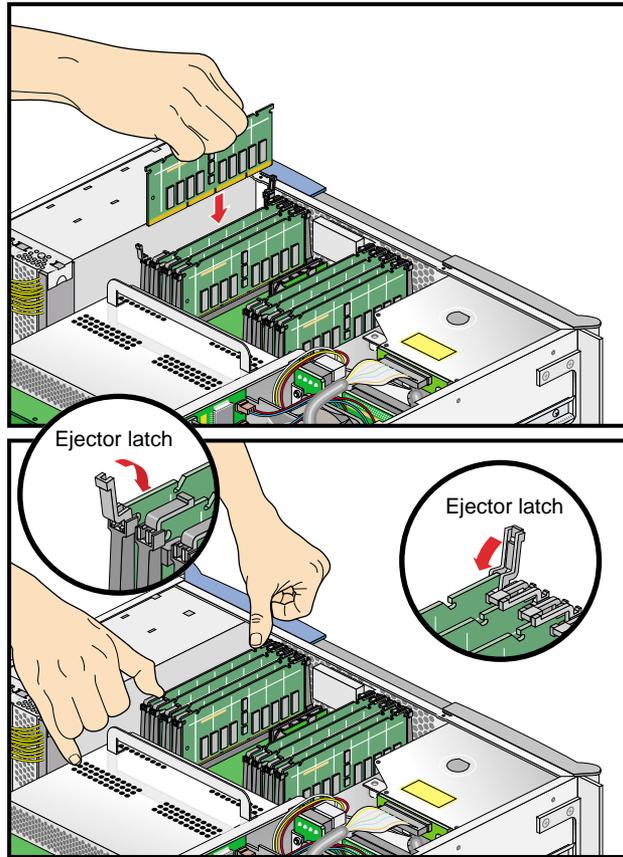

Figure 7-18 Inserting a DIMM
8. Install the DIMM, as follows (see Figure 7-18):
- e. Gently push the plastic ejector latches down to secure the DIMM, as shown in Figure 7-18. When the DIMM is fully seated in the connector, the ejector latches snap into place.